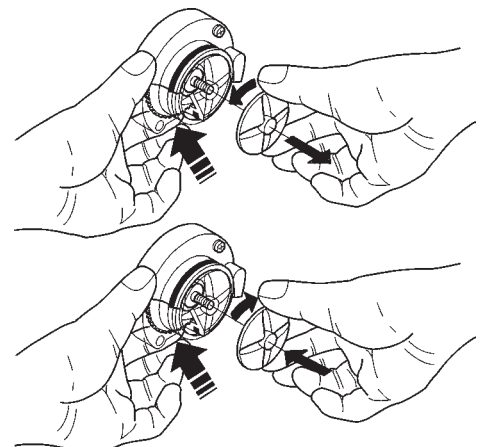

Fig. 23
- remove the powder and the water funnels, the feeders, the powder deposit drawers and the mixer wheels from the mixers (see Fig. 23);
- in order to remove the impellers, block the disk fitted on the mixer shaft with a finger (see Fig. 23).